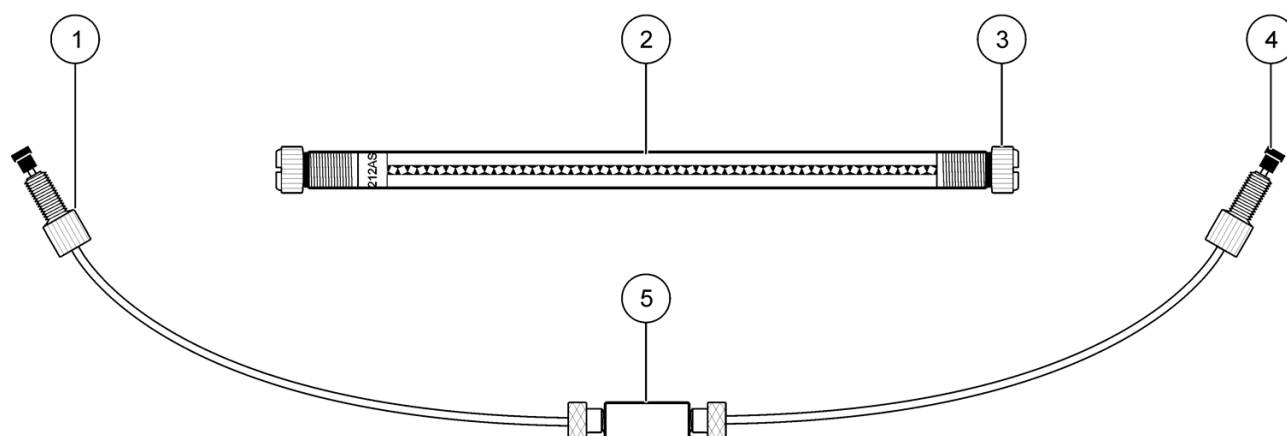

Figure 1 Cadmium column and column tubing assembly
The cadmium column for nitrate determination is a disposable alternative to repackable cadmium columns. Figure 1 shows the cadmium column and column tubing assembly.
- 5. Remove the end plugs from the column (Figure 1, Item 3 on page 1).